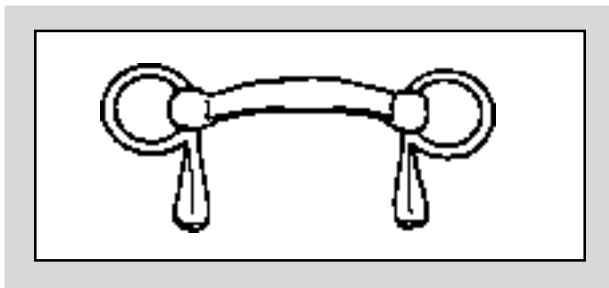
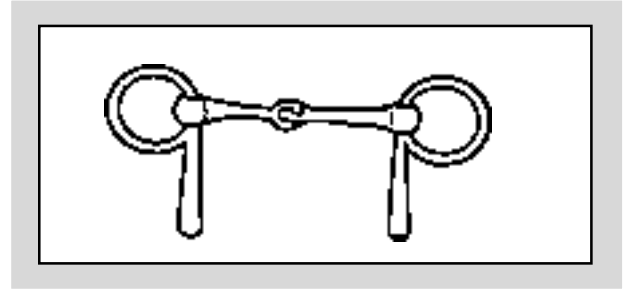

Figure 22. Half-Cheek Snaffle Bit Solid Mullen (Half Moon) Mouthpiece.
Figure 23. Half-Cheek Snaffle with Jointed Mouthpiece.
- **Half-Cheek Straight Bar Snaffle or Half-Cheek Jointed Snaffle.** Most commonly used (see Figure 22 and Figure 23). The halfcheek prevents the bit from pulling sideways through the mouth.